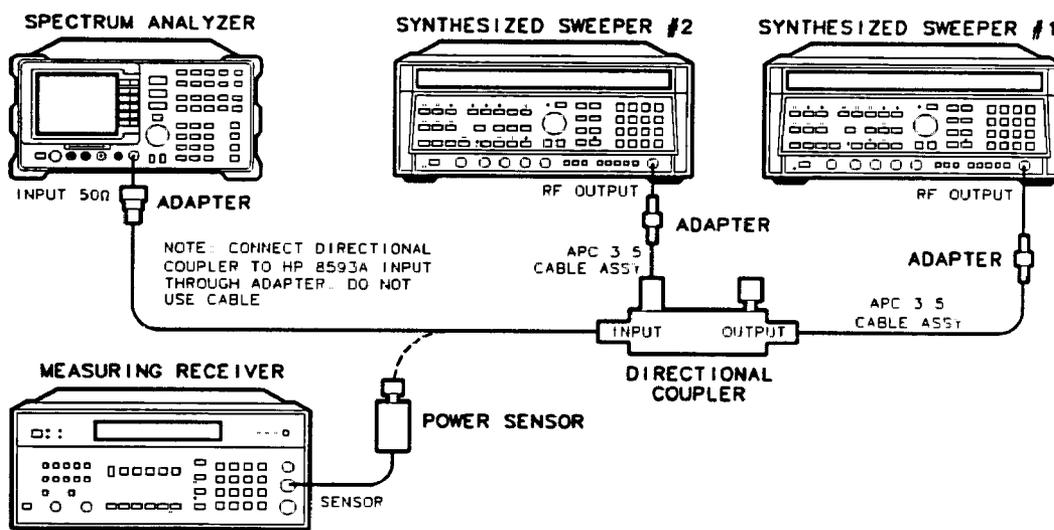

Figure 4-20. Third-Order Intermodulation Distortion Test Setup
- 32. Connect the equipment as shown in Figure 4-20 with the input of the directional coupler connected to the power sensor.